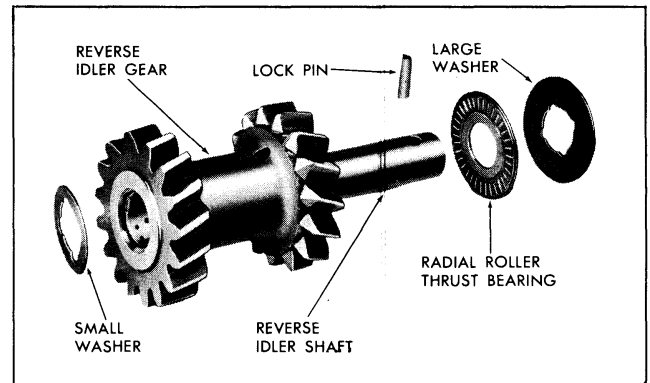

Fig. 7-30 Reverse Idler Gear, Shaft and Thrust Washers
2. Position radial roller thrust bearing against rear of gear (end with chamfered gear teeth) and position large thrust washer against bearing. Position small thrust washer at opposite (front end) of gear (Fig. 7-30).
3. From rear of case, install idler shaft, aligning lock pin hole in shaft with hole in case (Fig. 7-30), and tap shaft in until front of shaft is flush with inner side of rear boss.